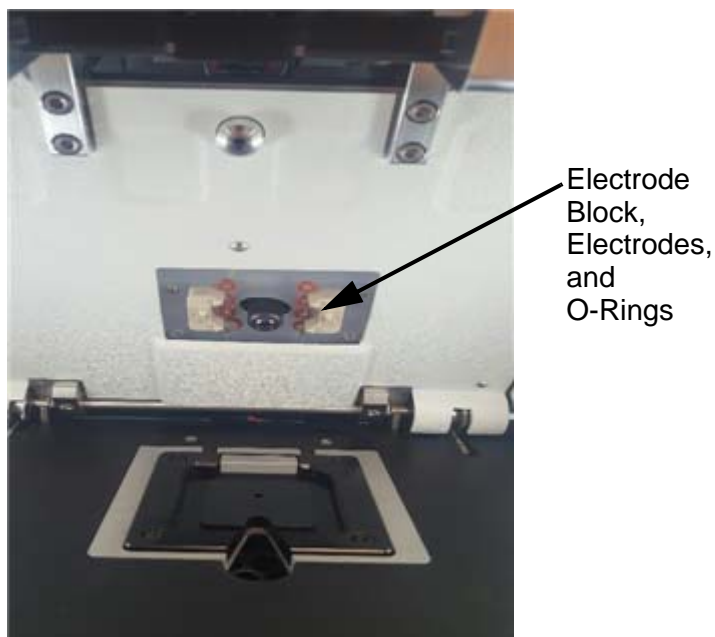

Figure 7. Chip Loading Area
- 4 Clean the electrodes (seen in Figure 7) using provided lint-free swabs dampened with DI water. Do not leave any visible droplets of water on the electrodes.